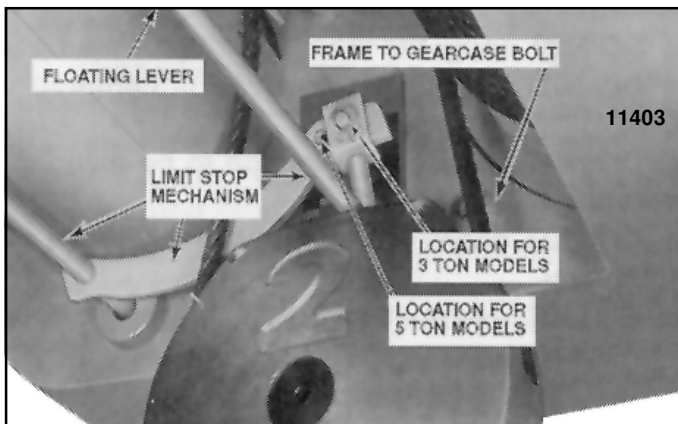

Figure 2-2. Limit Stop Mechanism Being Tripped By Lower Block
- (1) A block operated upper limit stop (Figure 2-2) is furnished as standard equipment. This limit stop is factory set to stop lower block in its high position and guard against over-travel and possible damage to hoist. (Note mounting position of floating lever for 3 and 5 ton hoists.) No adjustment can be made. Limit switch operation should be tested when hoist is installed. Move hook to a low position by depressing push button marked ↓. Now depress button marked ↑ to raise hook. While hook is traveling upward, manually (or with an extension pole) raise limit stop mechanism (Figure 2-2).